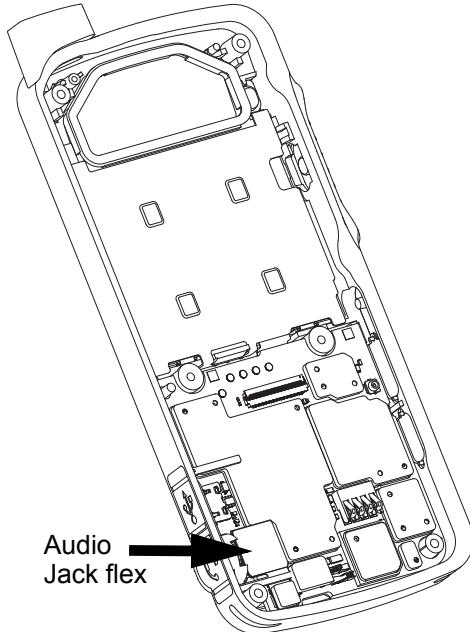

Figure 5-13. Audio jack flex removal
4. Lift and pull out the audio jack from its recess as shown in Figure 5-13.